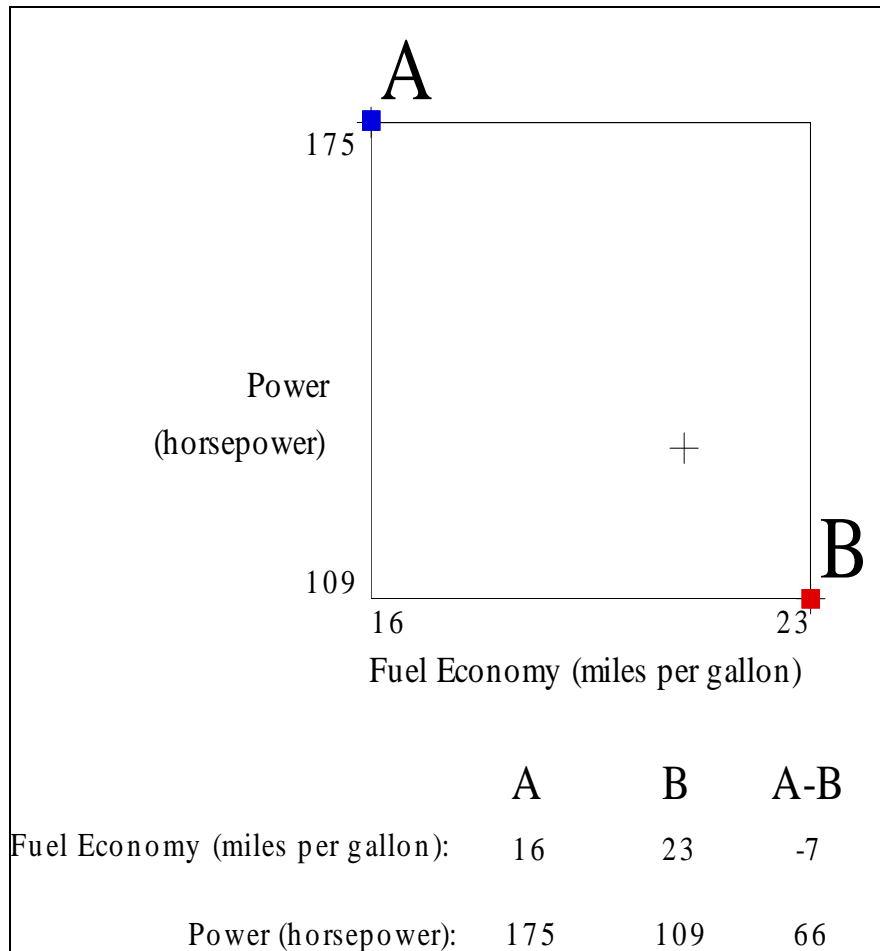

Figure 4- 9. Tradeoff assessment graph for Power vs. Fuel Economy
1. Clicking the "Assess" button. When you do this, the tradeoff graph shown in Figure 4- 9 appears.
In Figure 4- 9, Logical Decisions asks you to compare two hypothetical alternatives, labeled **A** and **B**. Alternative **A** is a truck with 175 hp that gets 16 mpg. Alternative **B** has 109 hp and gets 23 mpg.